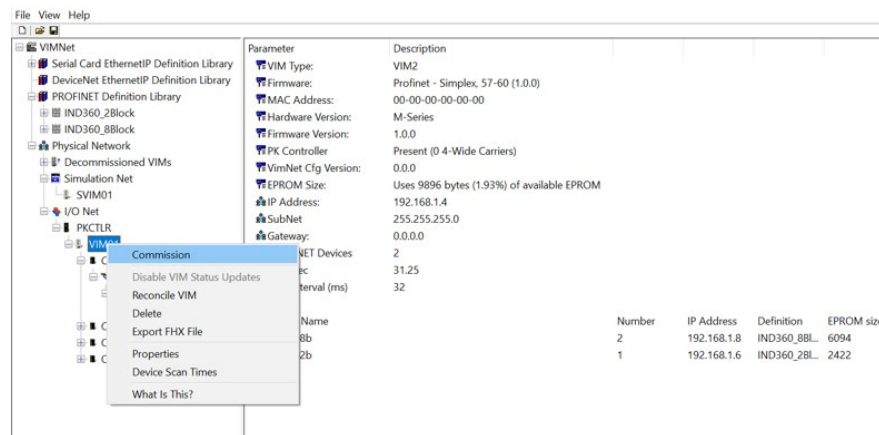

Figure 1-14: VIM Not in Commission Mode
4. Before uploading the configuration to VIM, verify that VIM is in Commission mode. Figure 1-14 shows VIM not in Commission mode. To commission, right click on the **VIM01** card and select **Commission** from the context menu which appears.